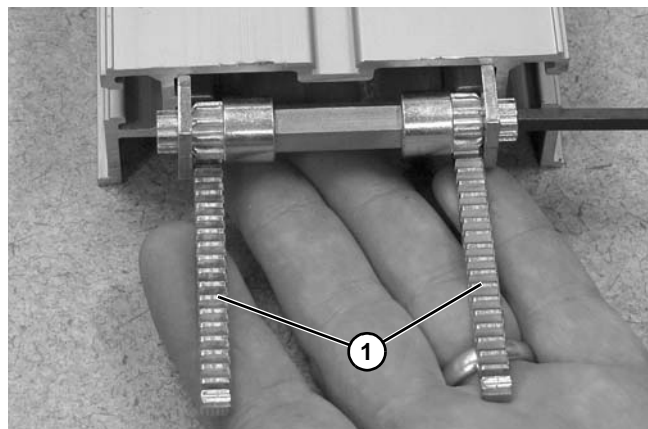

Figure 152
9. Insert both gear racks (**Figure 152, item 1**) into conveyor frame.